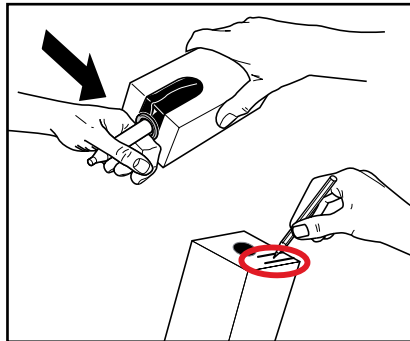

Fig. 16
4. Remove the plastic wrapper and write the „Expiry date“ on the product pack (fig. 16).
5. Follow the instructions on the product pack to open the doser (fig. 16).